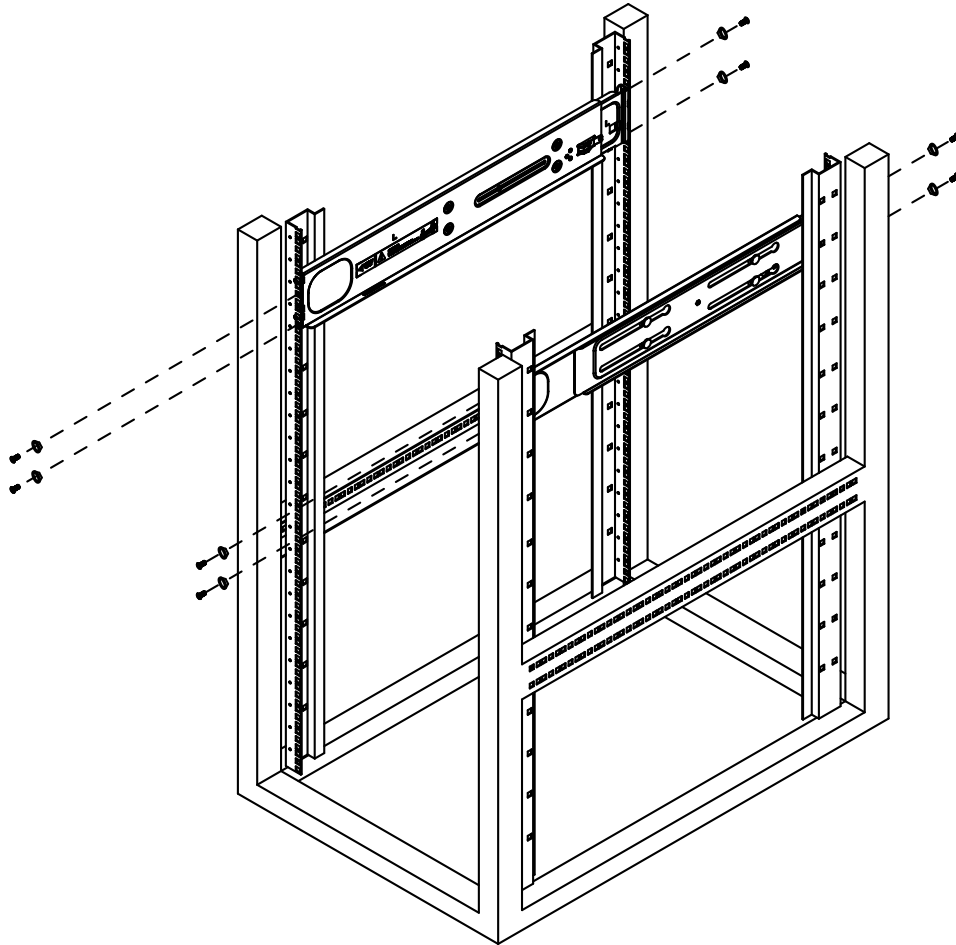

Figure 2-2. Sliding the Rail to the Depth of the Rack
3. Slide the rails sections apart to match the depth of the rack. Position the rails with the template and secure the front of each to the front of the rack with two flathead screws, then secure the back of each rail to the rear of the rack with two flathead screws (see Figure 2-2).